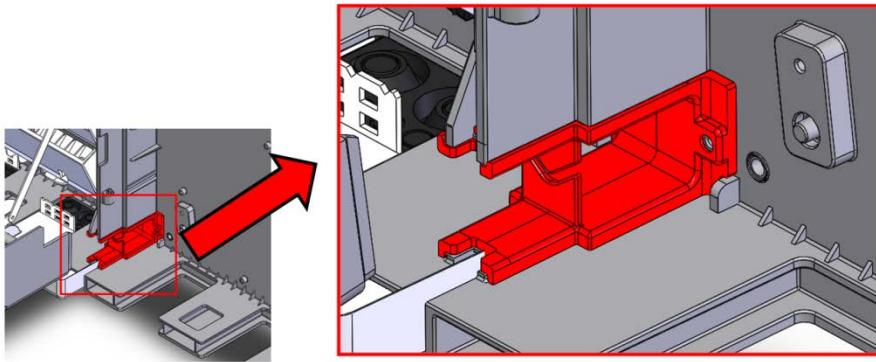

Figure 10
1.1.9 Connect both Products (Fig. 10)